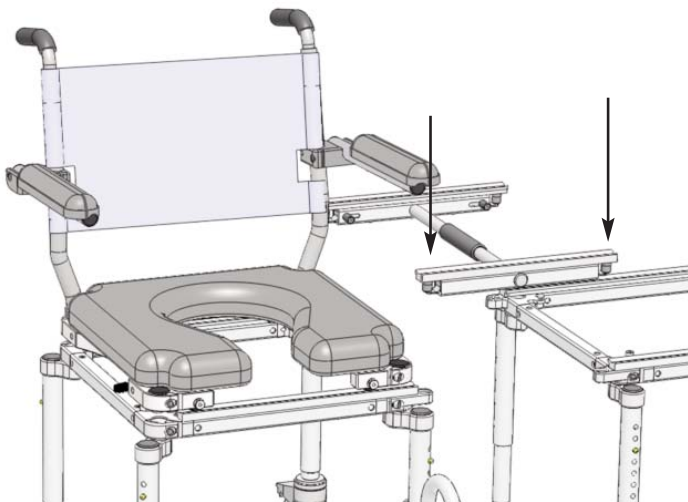

Figure 5
- F Place the connector bridge into the matching holes on both the roll-in section and tub section (Refer to Figure 5).